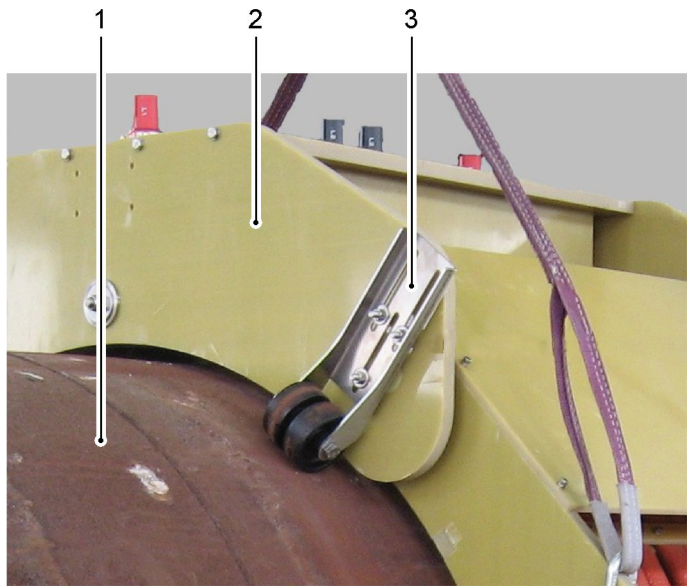

Figure 6.31 - Centring of the clamp coil on the pipe
- 5) Before to move the clamp coil (see Figure 6.31/2) onto the pipe (1), the four wheels (3) have to be adjusted trying to have the clamp coil (2) centred, so with an even gap between pipe (1) and clamp coil (2) shoulders. This gap, so the wheels (3) position, can be then better adjusted once the clamp coil (2) is on the pipe (1) still lifted with the crane.